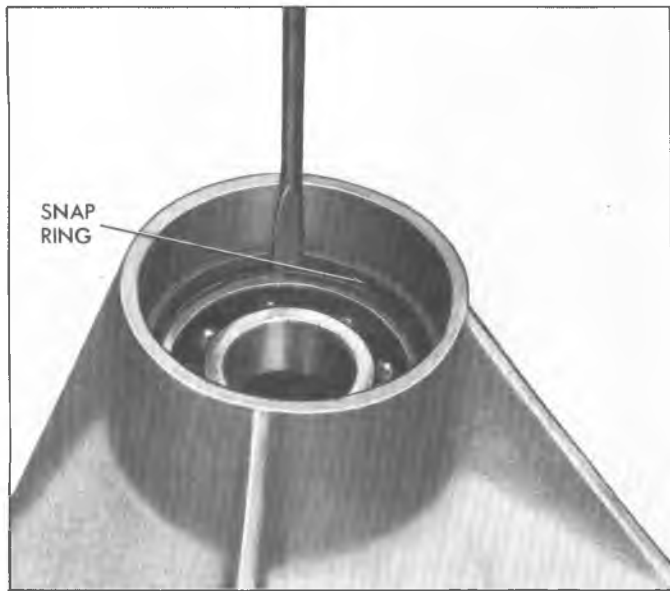

Fig. 16F—Removing Rear Output Bearing Retaining Ring
5. Using a screwdriver, pry behind open ends of snap ring and remove snap ring retaining rear bearing in housing (fig. 16F).